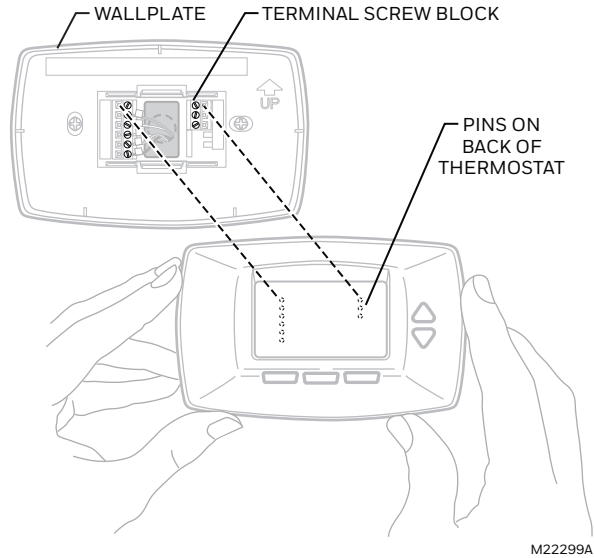

Fig. 39. Placing thermostat back onto subbase.
3. Place thermostat back on subbase by aligning terminal screw blocks with the pins on the back of the thermostat. (See Fig. 39.)